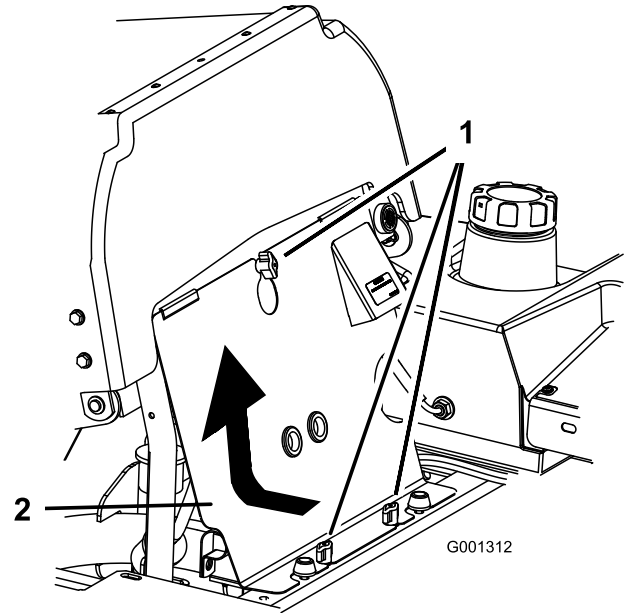

Figure 51
1. Tilt the seat forward and remove the front engine panel (Figure 51).